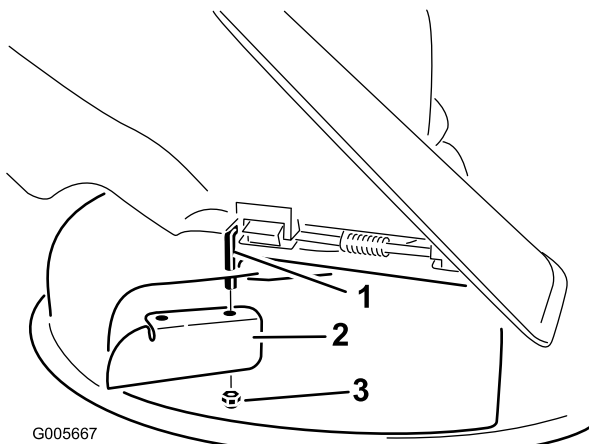

Figure 26
7. Install the cutoff baffle to the exposed pivot rod (Figure 26).
3. Remove the cutoff baffle from the mower deck (Figure 26).